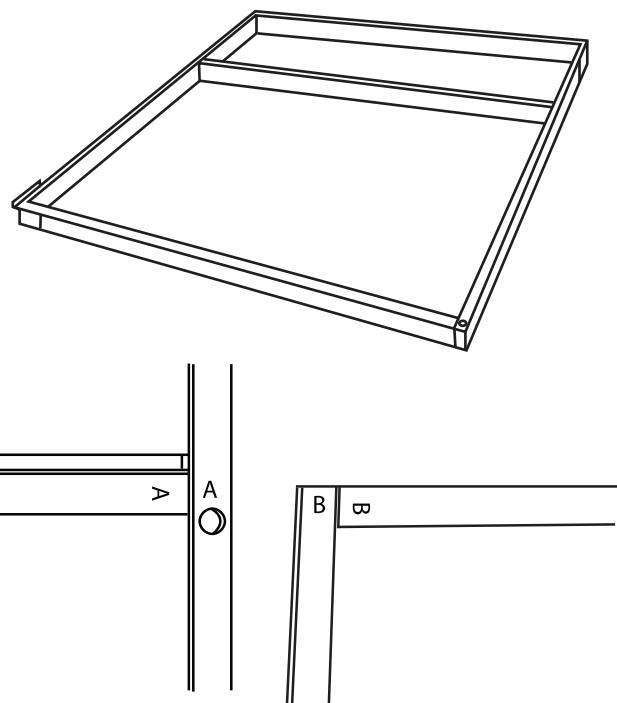

Fig. 15 — Assemble Base
1. Assemble the mixing box base rails using the provided hardware. The base rails are marked with identifying letters. See Fig. 15.